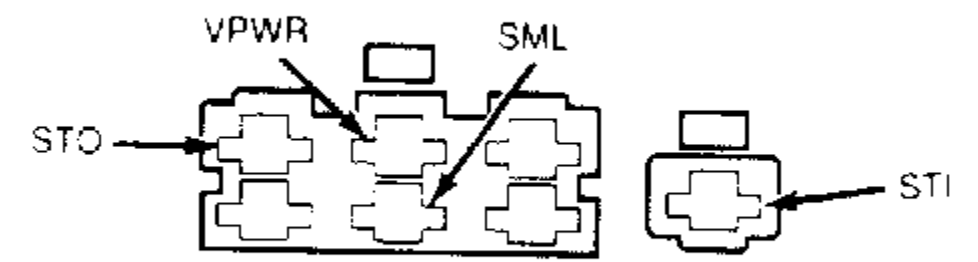

Fig. 1: Self-Test Connector Terminal ID
1. Turn ignition off. Connect a jumper wire from STI connector to ground. Refer to SELF-TEST CONNECTOR LOCATION and SELF-TEST CONNECTOR WIRE COLORS tables. See Fig. 1.